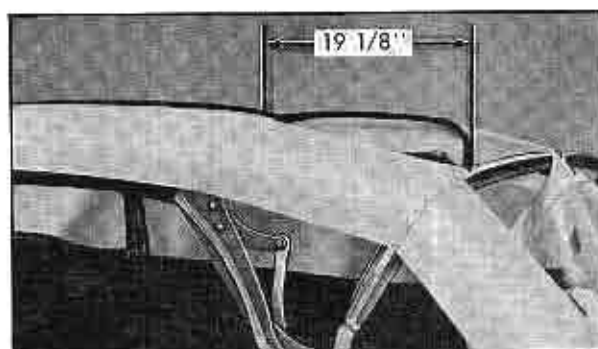

Fig. 3-109 Locating Center Bow
6. Install side stay pads in the conventional manner. Set center bow as indicated by dimension in Fig. 3-109. This dimension is approximately 19-1/8 inches from the rear bow and is measured from the center of each bow at the inner edge of the pad.